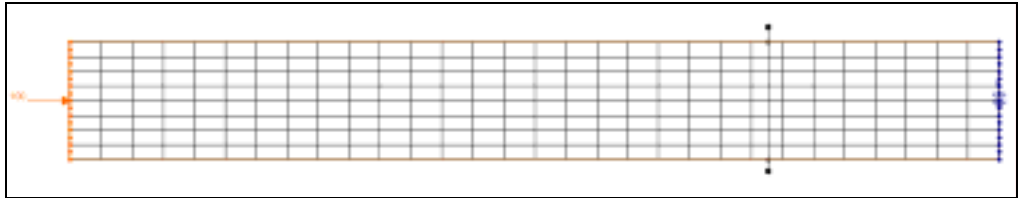

Figure 18-11 Channel #3 showing placement of observation arc.
5. Create an observation arc across the flume at about 200 m from the downstream boundary as shown in Figure 18-11.